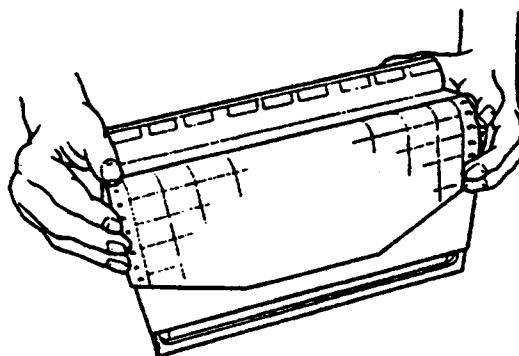

Figure 6.14
- (6) To install the chart in parallel with the sprockets at both sides, align the ruled line indicated to the chart right and left edges at 5cm intervals with the follows (indicated with the arrow marks) located on the right and left side panels of the cassette. At this time, pull the chart end to the center of the chart tray table (See Figure. 6.14).
- (7) Reinstall the metal chart holder fitting in place (attach). In this case, while taking care not to deform the chart end, the metal projections on the right and left sides of the chart holder at the rear section should be matched with the oval holes on the right and left sides panels of the cassette security.